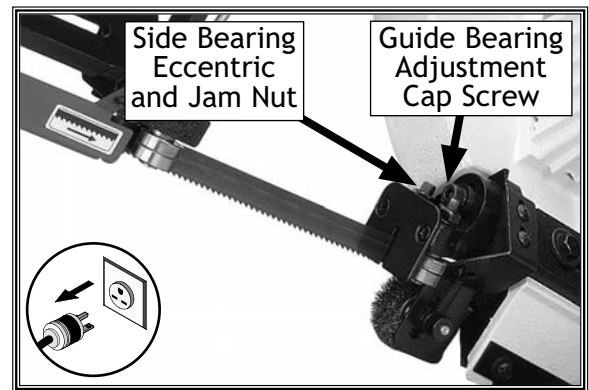

Figure 31. Blade guide location.
7. Using a 6mm wrench, rotate the side bearing eccentrics (**Figure 31**) until the bearings hold the blade perpendicular to the table surface and have a bearing-to-blade clearance of 0.000" to 0.001". The bearings must not pinch the blade.